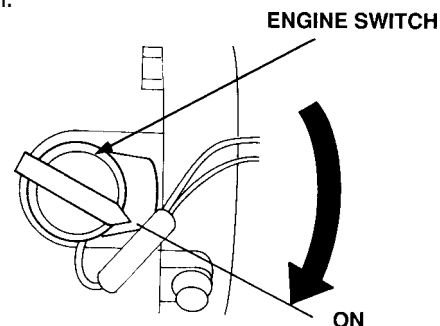

Figure 10. Engine ON/OFF Switch (ON Position)
5. Place the **engine ON/OFF switch** (Figure 10) in the "ON" position.